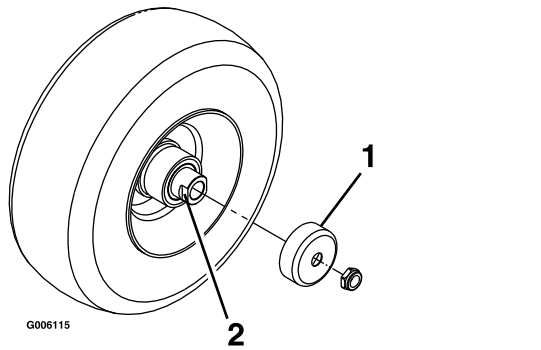

Figure 39
4. Remove the seal guards from the wheel hub (Figure 39).